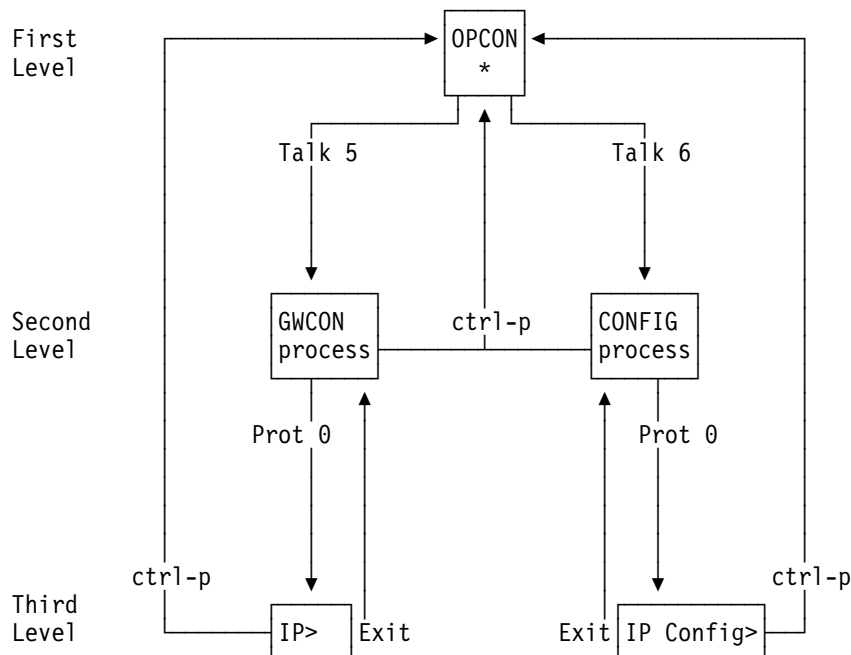

Figure E-1. Structure of the Command Line Interface with the protocol command (Prot) as an example
**Answer** The structure of the interface is shown in Figure E-1.